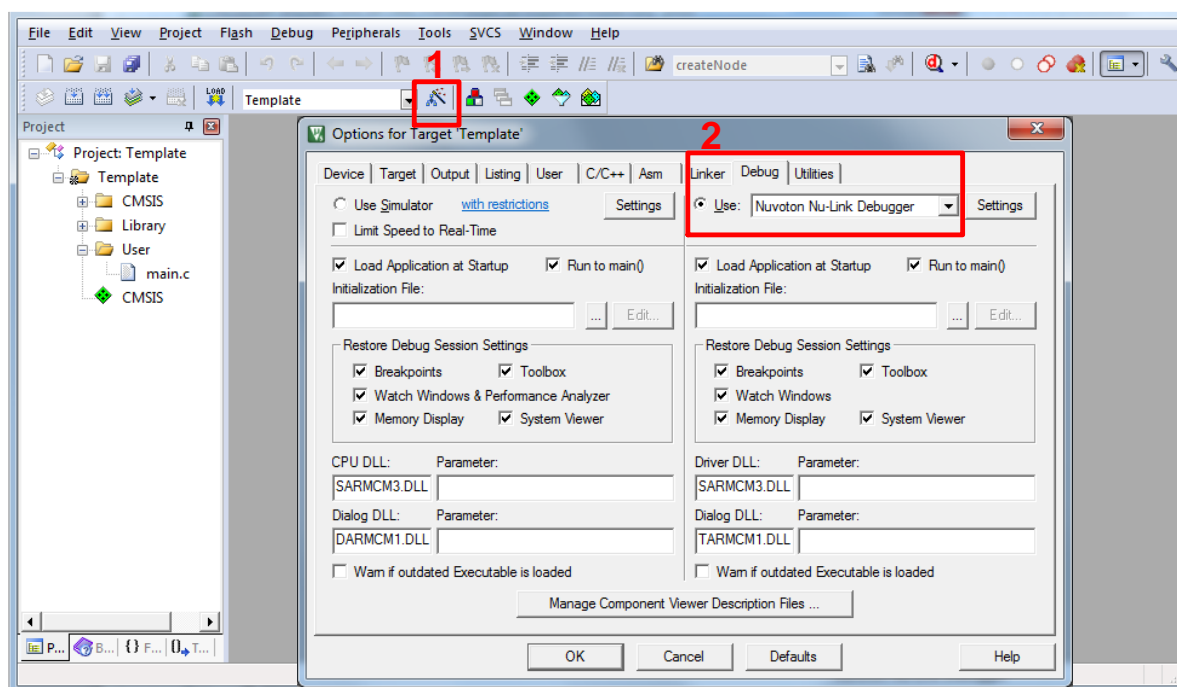
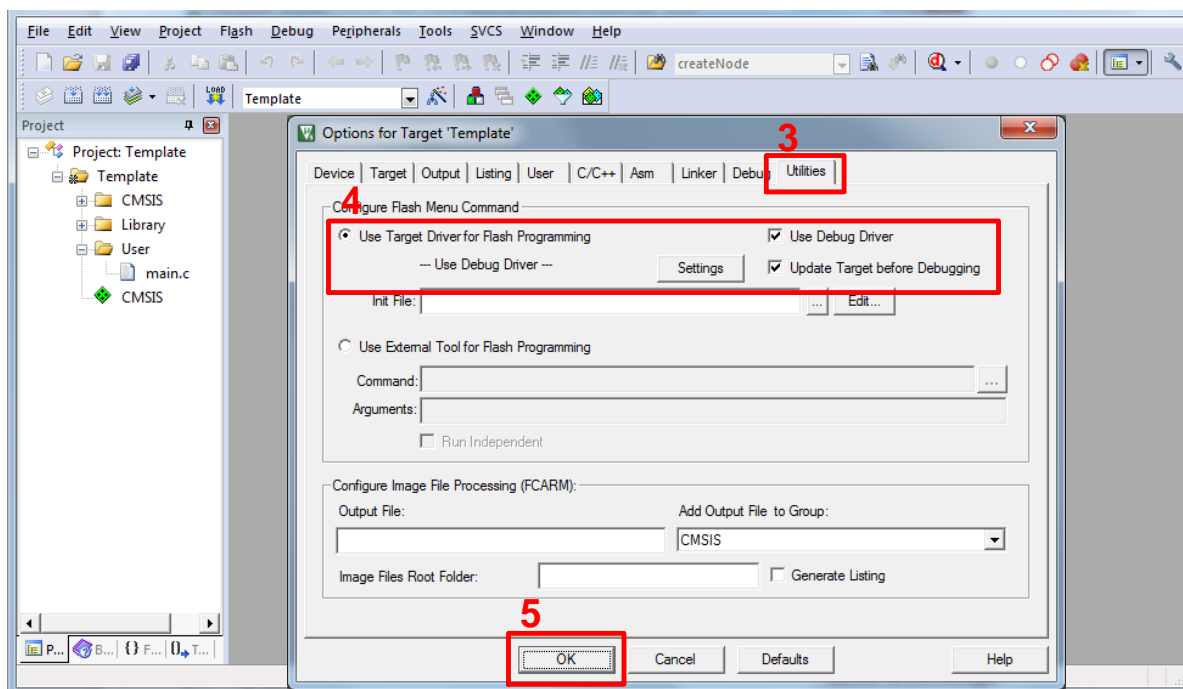

Figure 5.2-12 Debugger Setting in Options Window
Figure 5.2-13 Programming Setting in Options Window
- (3) Invoke **Project** → **Options for Target** → **Debug**, and make sure the **Use: Nuvoton Nu-Link Debugger** option is checked, as shown in Figure 5.2-12 and Figure 5.2-13.